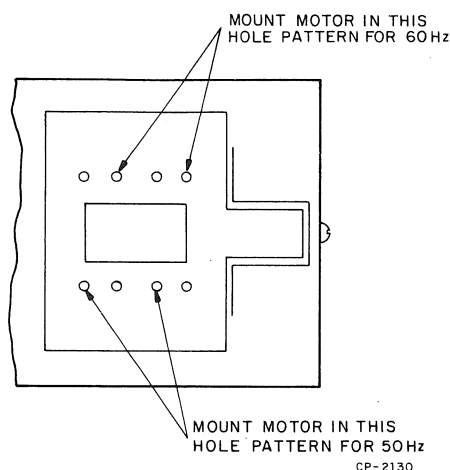

Figure 5-54 Motor-Mounting Holes for 50/60 Hz Operation
3. Inspect the motor mounting plate, which should have an open set of four motor-mount holes. Remove the four socket-head screws holding the motor in place and remount them in the open set of holes, as shown in Figure 5-54.